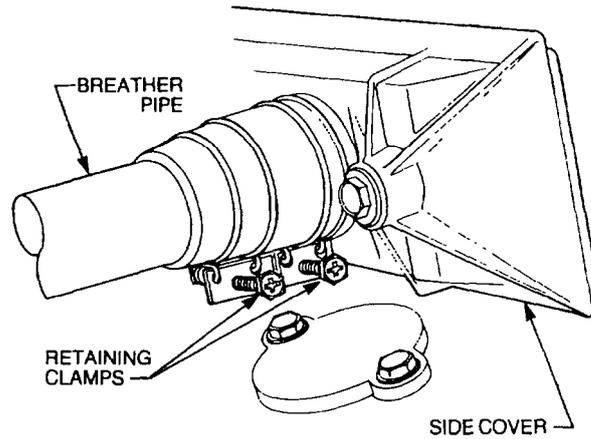

Figure 13 Side Cover Breather Connection
- k. Loosen one of the clamps securing the engine breather pipe to the side cover. Remove the nuts and washers securing the breather to the exhaust manifold (Figure 13).